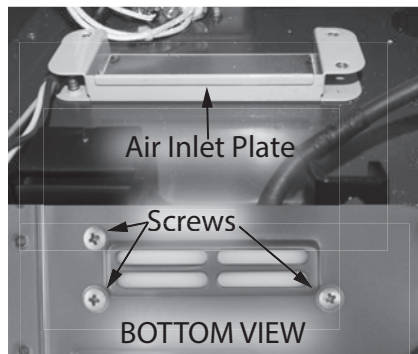

Figure 26 - Air inlet plate
- 6 Locate the air inlet plate as shown in Figure 26. The air inlet plate can be removed to allow easy access to heater block inside hot outlet connection.